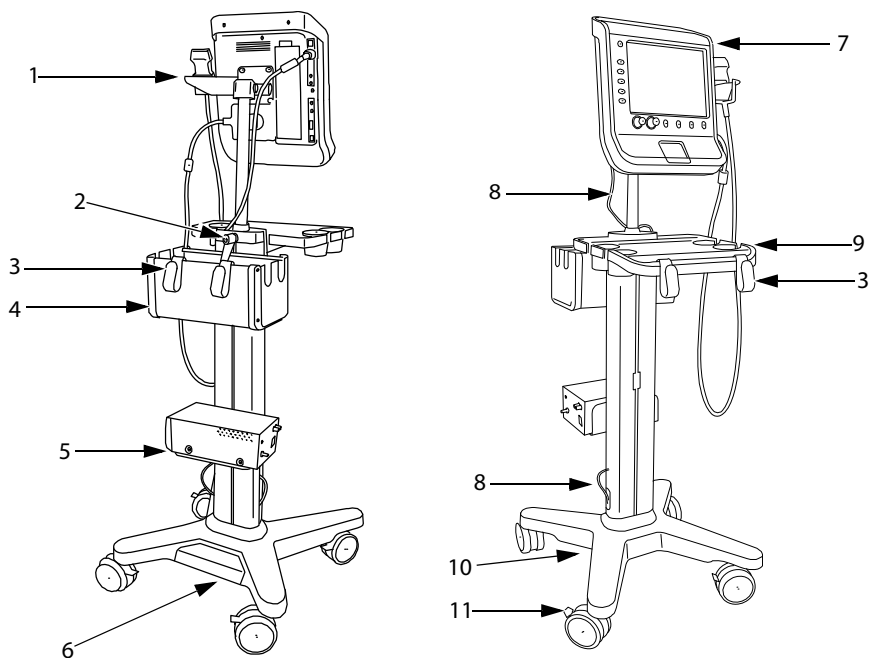

Figure 1 V-Universal Stand: Back and front views (shown with S Series ultrasound system and optional printer, basket, and tray)
- ❖ Connect the following cords. See Figure 1 on page 3.